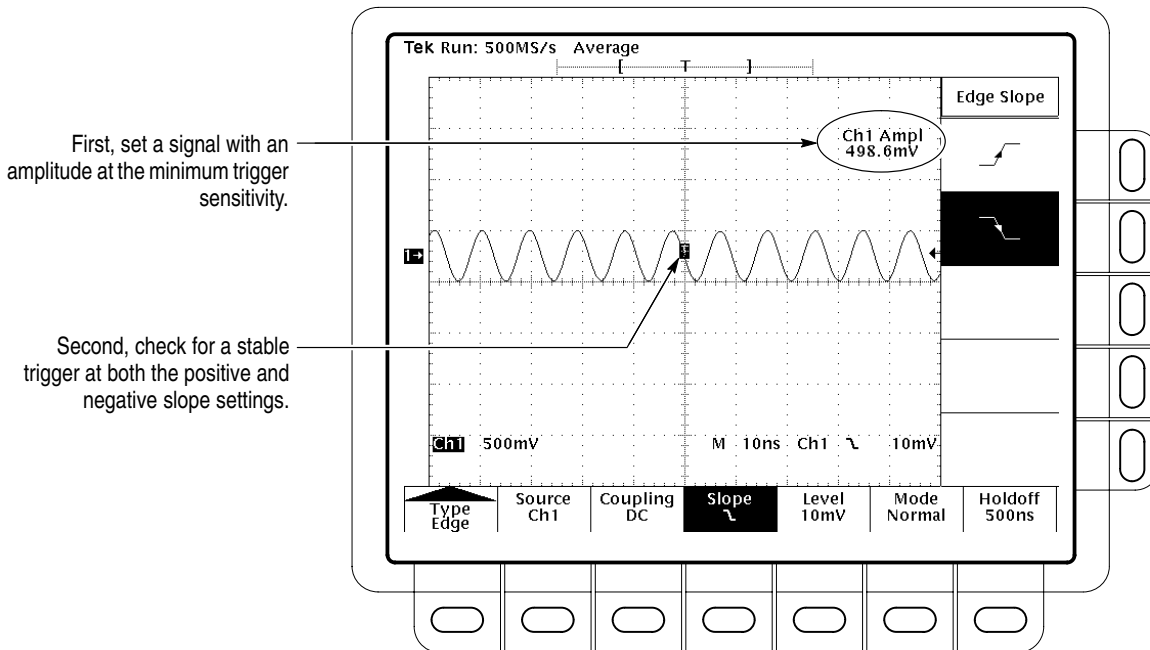

Figure B-7: Measuring trigger sensitivity
15. Press **SET LEVEL TO 50%**. Check that a stable trigger is obtained for the test waveform on both the positive and negative slopes (see Figure B-7). (Use the side menu to switch between trigger slopes; use the trigger **LEVEL** knob to stabilize the trigger if required.)